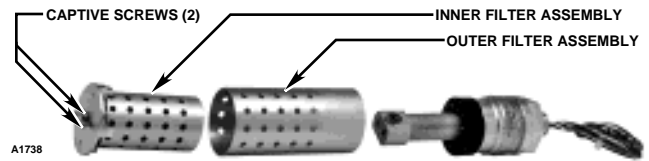
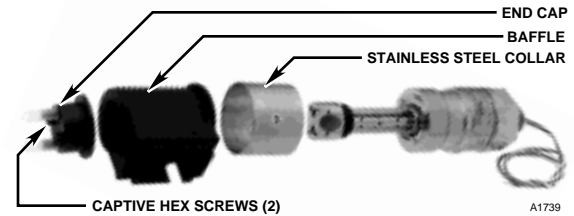

Figure 9—Aluminum PointWatch Disassembly
Figure 10—Stainless Steel PointWatch Disassembly
1. Loosen the two captive screws on the flat end of the detector and slide the filter assemblies off. For the aluminum model, use a standard screwdriver. For the stainless steel model, use a 7/64 inch hex driver. See Figure 9 (aluminum) or Figure 10 (stainless steel).
- For the aluminum model, slide the outer filter assembly over the mirror assembly. The outer filter should be oriented with the solid portion toward the base of the unit. If it is not oriented correctly, the filter assembly will not slide onto the unit. Slide the inner filter assembly into the outer filter assembly and rotate until it is seated securely, then fasten the two captive screws using a standard screwdriver. See Figure 9.
For the stainless steel model, slide the stainless steel collar onto the base assembly, then slide the baffle onto the unit. Place the end cap on the baffle and rotate it until it is seated securely, then fasten the two captive screws using a 7/64 inch hex driver. See Figure 10.